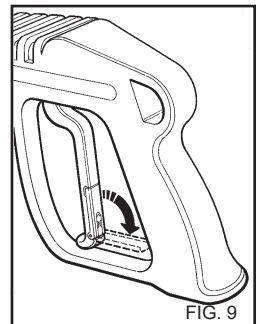

FIG. 9
- When the water cleaner is not used, close the safety device on the handle (fig. 9).